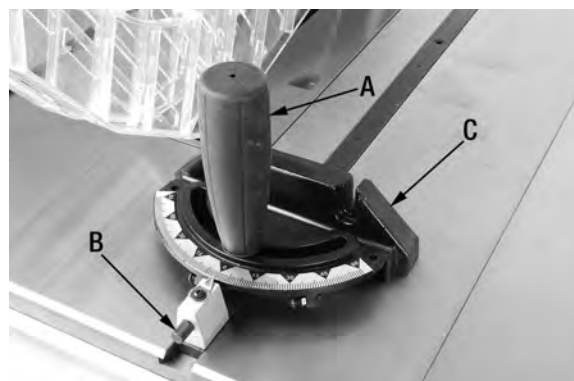

FIGURE 27
- 1) The miter gauge shown in Fig.27 normally gets positioned on the left side of the blade by sliding the miter gauge bar into the table T-slot. To operate the miter gauge, loosen lock knob (A) Fig.27, pull and hold the positive stop pin (B) and pivot the miter gauge body (C) to the desired angle, push the positive stop pin (B) back in and retighten lock knob (A).
- 2) If you desire a preset positive stop such as 0° or 45° setting, loosen lock knob (A) Fig.27, pull and hold the positive stop pin (B) and slightly pivot the miter gauge body (C). Once you get close to the desired angle, push the positive stop pin back in, continue to rotate the miter gauge body towards the desired angle, the positive stop pin will engage that positive stop position, once the preset angle is set, retighten lock knob (A).